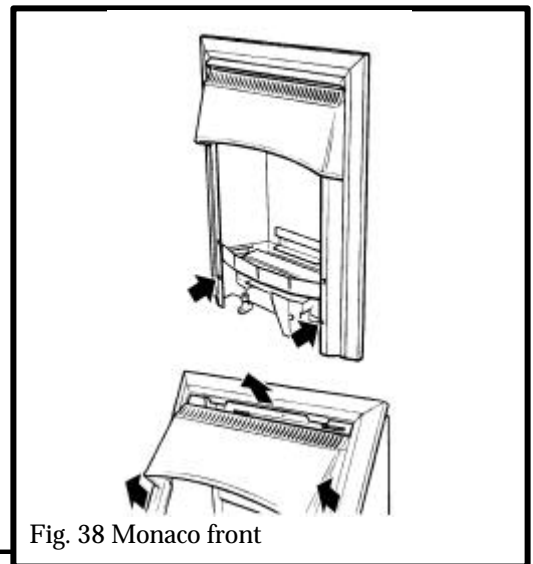

Fig. 38 Monaco front
13.3.1.2 Remove the two screws securing the bottom of the front surround to the sides of the convection box (See fig. 38).
13.3.1.3 Raise the front surround to allow the retaining lugs at the top to clear the slots in the convection box hood (see figure 38) . Carefully remove the surround. Place carefully aside.